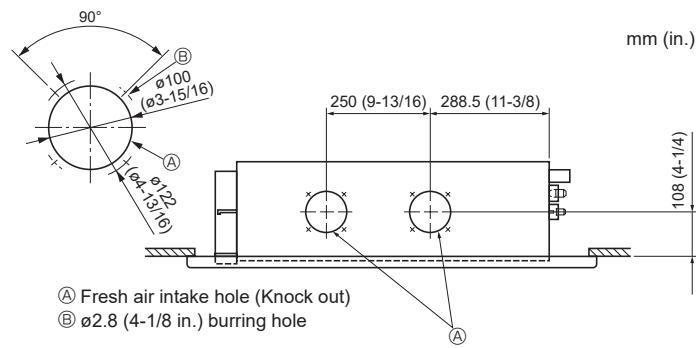

Fig. 2-8
2.5. Fresh air intake hole (Fig. 2-8)